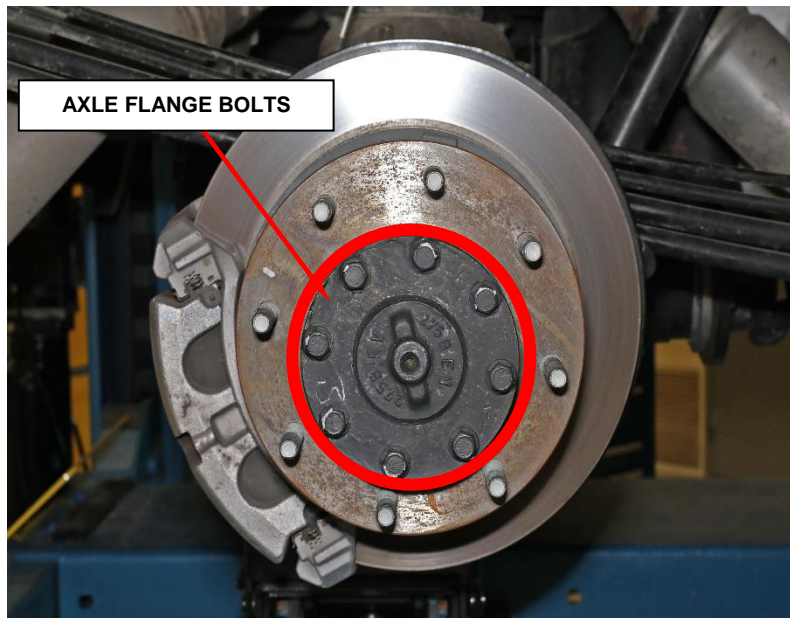

Figure 9 – Flange Bolts
4. Remove the axle flange bolts (Figure 9).